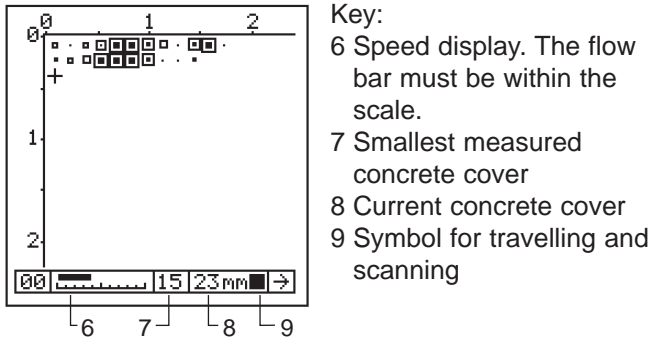

Fig. 5.16 Measuring area after measuring
- If the rebars of the first layer run in a vertical direction as shown in Fig. 5.14, the travel paths must be positioned horizontally with the selected grid spacing in direction y. Move the mobile probe along these paths. In Fig. 5.16, pos. 7, the smallest concrete cover measured in a grid field is displayed and stored automatically as grey scale.
- Please note that the smallest concrete cover measured in a grid field is always displayed (see Fig. 5.16, Pos. 7). Store this value using the PRINT/STORE key.